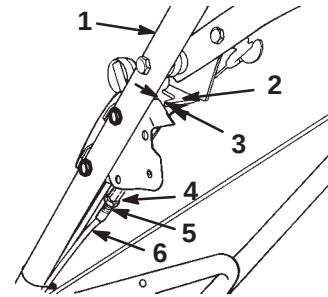

Figure 34
- A. Loosen the jam nut on the blade brake cable (Fig. 34).